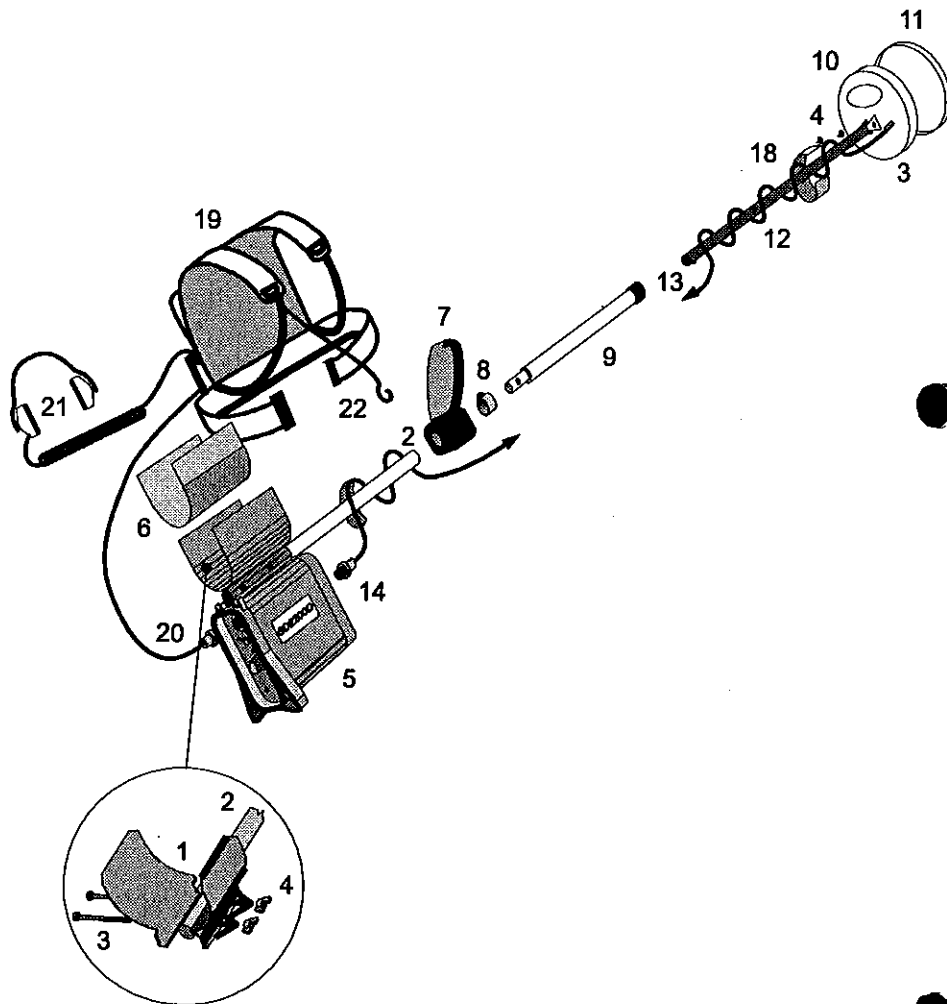

Figure 3 – The SD 2200D components assembly
4. Unpacking and Assembly (see Figure 3)
- a) Place the two *Armrest* halves (1) on either side of the *Upper shaft* (2) and ensure that the bolt holes line up.
- b) Slide the two Nylon bolts (3) through the bolt holes and screw the Nylon wing nuts (4) onto the bolts by a couple of turns.
- c) Slide the 'T' section on the top of the *Control box* (5) into the *Armrest* with the detector stand at the rear. Tighten the Nylon wing nuts by hand.
- d) Push the *Armrest cover* (6) over the assembled *Armrest* (1).
- e) Slide the *Handle* (7) onto the other end of the *Upper shaft* (2) and set it to a comfortable position. Tighten the two screws with a small flat tipped screwdriver to hold the *Handle* in place.
- f) Slide the bungy cord knuckle (8) onto the *Intermediate shaft* (9).
- g) Slide the *Intermediate shaft* (9) into the end of the *Upper shaft* (2) and snap it into place.
- h) Ensure that the 11" *Coil* (10) has a *Skid plate* (11) attached.
- i) Ensure that the coil pivot end of the fiberglass *Lower shaft* (12) has two teardrop rubber washers installed. They should always be full thickness and replaced regularly as they wear out. Push the fiberglass *Lower shaft* into the mounting bracket on the *Coil* and ensure that the spring clip (13) faces the rear of the *Coil*.
- j) Line up the holes in the coil mounting bracket with the pivot end of the fiberglass tube. Push the Nylon bolt (3) through the holes and fit the Nylon wing nut (4) which should be tightened by hand. **DO NOT** over-tighten as the coil housing might be damaged.